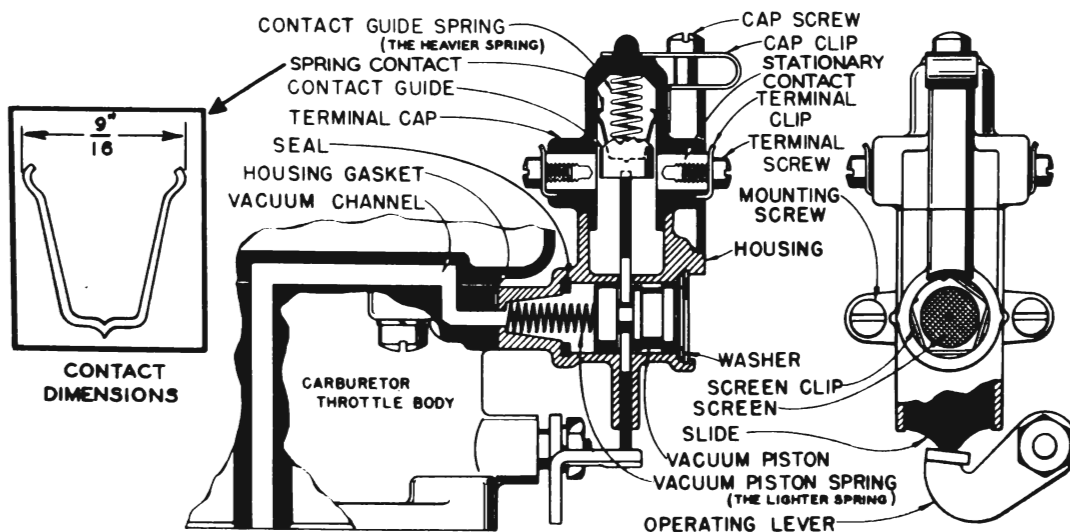

Figure 10-42—Stromberg Accelerator Vacuum Switch—Engine Not Running
the engine manifold is applied at one end by means of cored and drilled passages in the carburetor bodies. This end of the barrel is provided with a washer which forms a seal to prevent leaks when a piston opposed by a light spring is drawn against it by vacuum. The opposite end of the barrel is vented to outside air through a fine mesh screen which is held in place by a screen clip. A flat slide, actuated by an operating lever on the throttle shaft, moves in a confined slot in the housing and in a plane perpendicular to the axis of the cylinder barrel. This slide engages a cylindrical bakelite contact guide, the upward movement of which is opposed by a heavy contact guide spring. The contact guide carries a thin U-shaped spring contact which moves up and down within a bakelite terminal cap to engage stationary contacts for opening and closing the cranking motor control circuit. The terminal cap is held in place by a cap screw and cap clip. See figure 10-42.
Figure 10-42 shows the accelerator vacuum
The switch may be readily disassembled by referring to figure 10-42. Wash all metal parts in white gasoline and wipe dry. Do not soak bakelite parts in cleaning solution, but wipe with a clean cloth.
1. Make certain that the contact guide spring and the vacuum piston spring are installed in their proper positions. The contact guide spring may be identified as the heavier of the two springs. See figure 10-42.
3. Use care in handling the U-shaped contact spring to avoid altering the dimension of the open end. The open end measures $\frac{9}{16}$ " from outside to outside of the curved ends of spring. See figure 10-42.